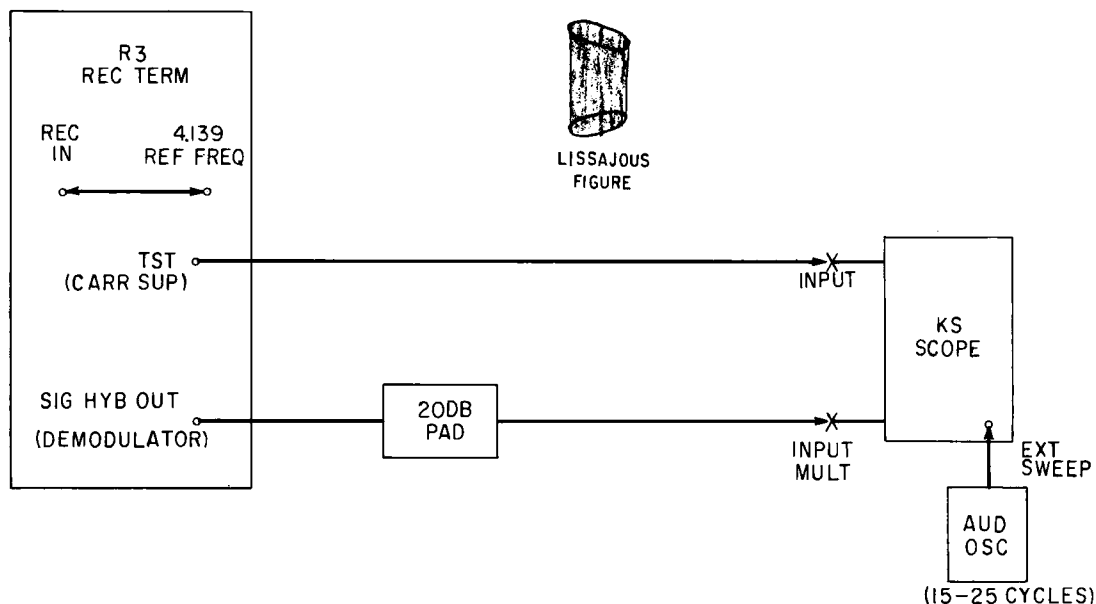

Fig. 19 – Test Arrangement for Calibrating Frequency Control Circuit
- (2) Set up test arrangement of Fig. 19.